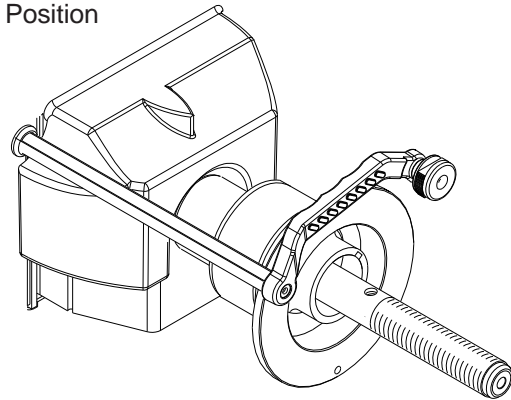

Figure 42 - SAPE Rod Arm Fully Extended
4. Gently pull the **SAPE** arm **OUT** until it is fully extended, (Figure 42) hold it steady for about 1 second, a tone will sound. NOTE: The SAPE arm will pull out past the Bell Housing Face.